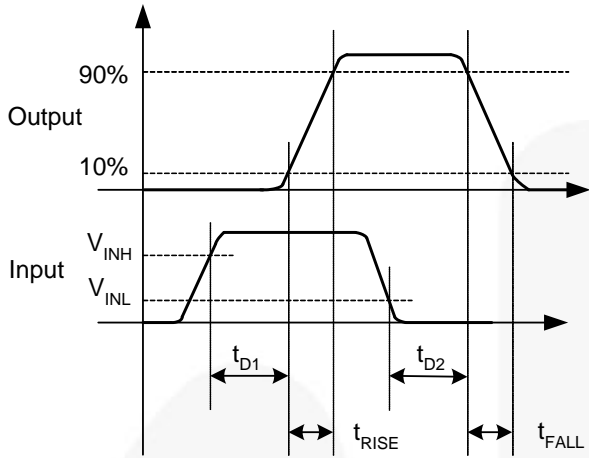
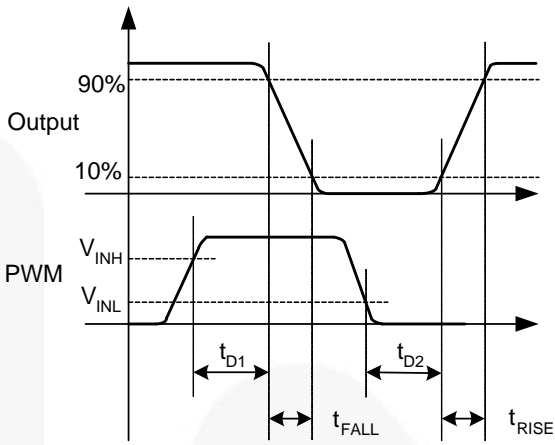

Figure 6. IN Pin
Figure 7. DIM Pin
- 7. See *Timing Diagrams of Figure 6 and Figure 7*.